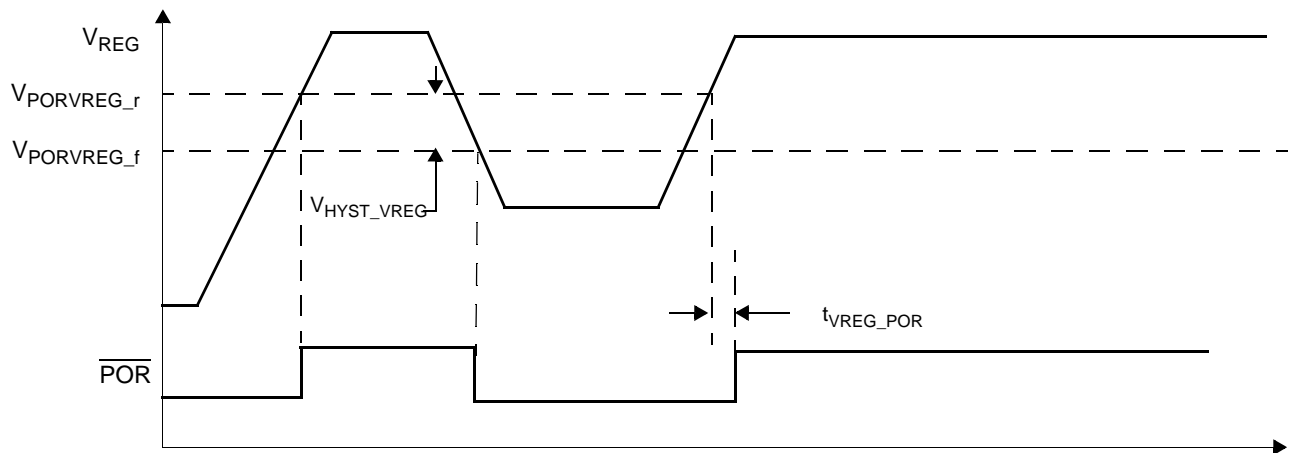

Figure 6. V_{REG} Under-Voltage Detection
| 92 | V_{REG} Under-Voltage Reset Delay (See Figure 6) $V_{REG} < V_{PORVREG_f}$ to POR assertion | t_{VREG_POR} | — | — | 5 | μ s | (3) |